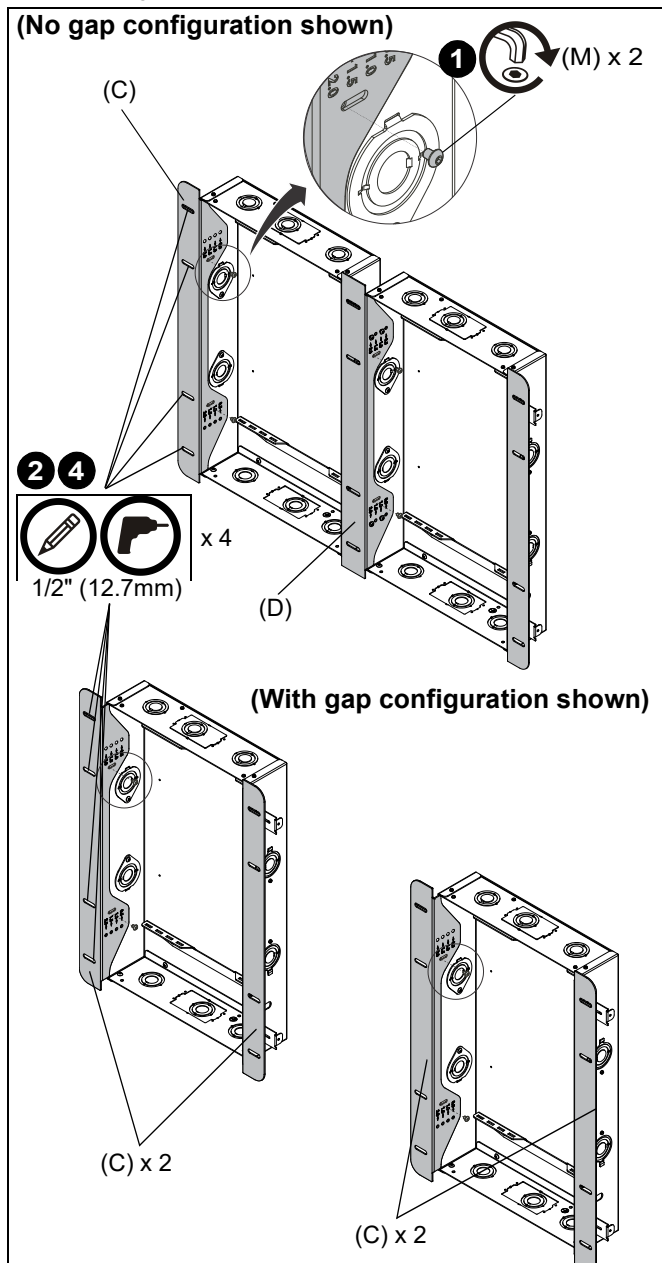

Figure 2
1. Use two #10-24 x 1/4" button head cap screws (M) to secure each side flange (C) and saddle flange (D) to installed boxes. Do not tighten screws at this point. (See Figure 2)
2. Mark anchor holes on studs at each slot in each flange. (See Figure 2)
4. Drill a 1/2" (12.7mm) hole at each marked location. (See Figure 2)